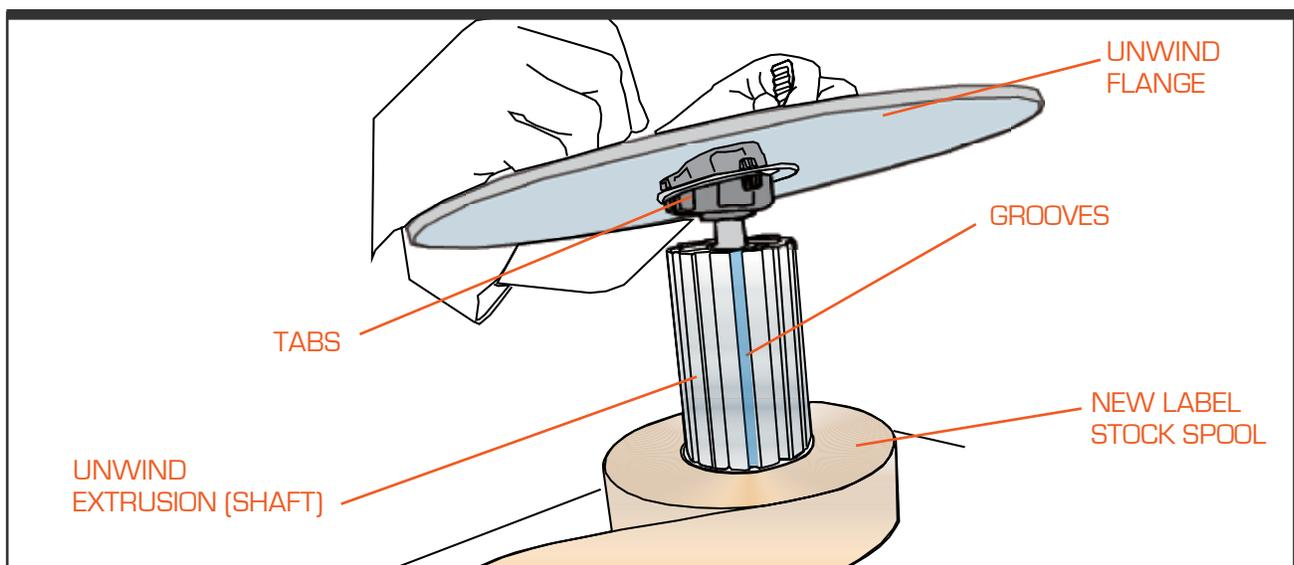

Figure 4-2. Unwind Assembly - Installing New Label Spool
- Step 2. Install Label Core.** Install a new spool of labels. Make sure the supply roll is pushed to the inner unwind flange of the assembly. Replace the outer flange by aligning the tabs with the grooves on the extrusion (see Figure 4-2). Once the outer flange is slid down over the spool along the grooves, firmly seat the outer flange down over the spool, and push the tabs into the core of the spool.